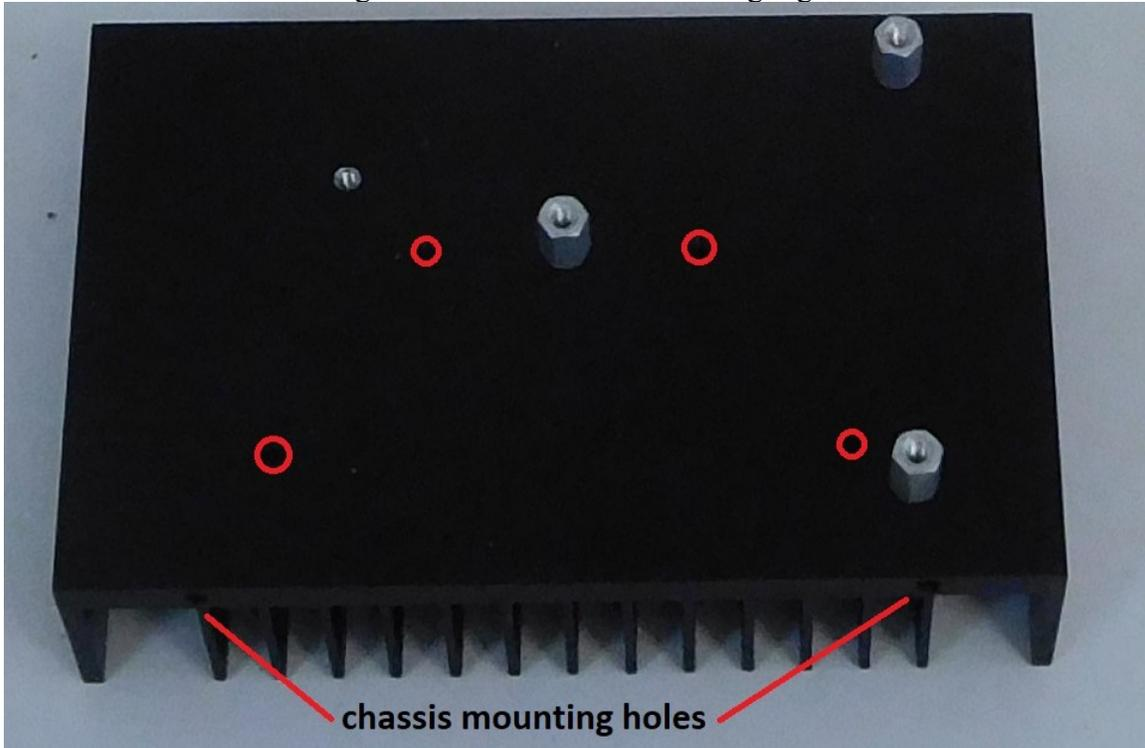

Figure 3-Install the male-female standoffs
4. Transfer the three male-female standoffs to the Really Big Heat Sink, installing them as shown in Figure 3. Note that the 4 holes highlighted in red are *not used*.